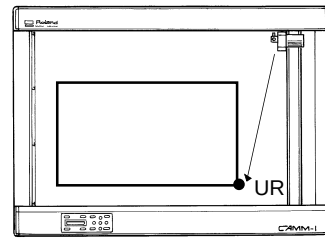

Figure 2-16
3. Press the [ F3 ] key to start the cutting test. This test cuts the figure 2-16 at the current tool position. This requires an area of approximately 2 cm2 .